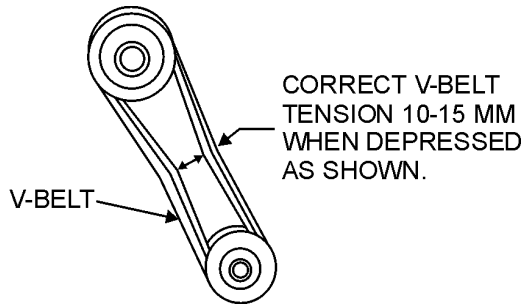

Figure 22. V-Belt Tension
1. The V-belt tension is proper if the V-belt bends 10 to 15 mm (Figure 22) when depressed with finger midway between the clutch and vibration pulley shafts.